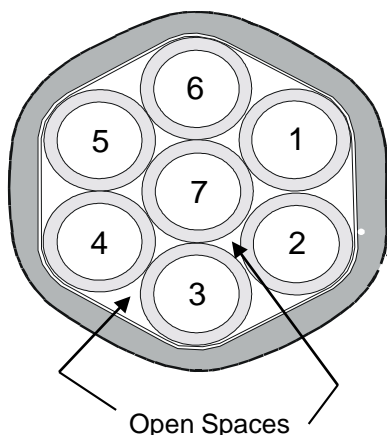

Figure 1
1.1 This procedure describes the special techniques to seal empty tubes and the open spaces between the tubes and between the tubes and cable jacket inside FutureFLEX tube cables to prevent the transfer of flammable gases or vapors from Classified (hazardous) locations to Non-Classified locations. **See Fig. 1.**